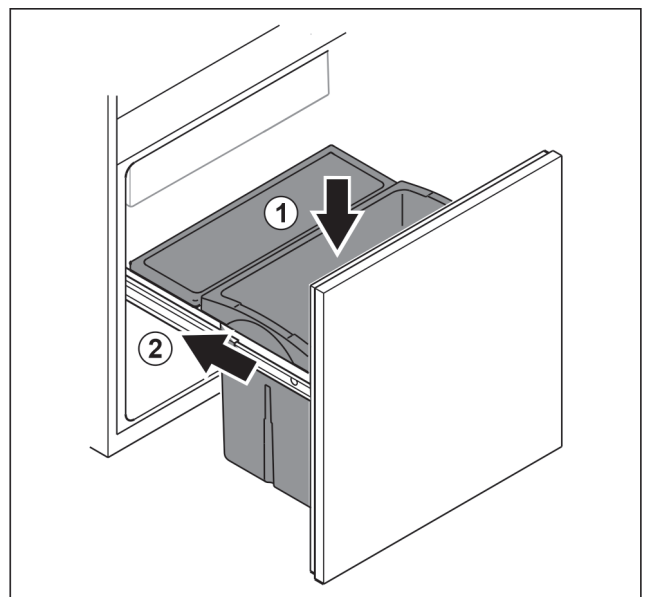

Fig. 149
- ▶ Insert drawer from above. Fig. 149 (1)
- ▶ Slide in pull-out unit. Fig. 149 (2)